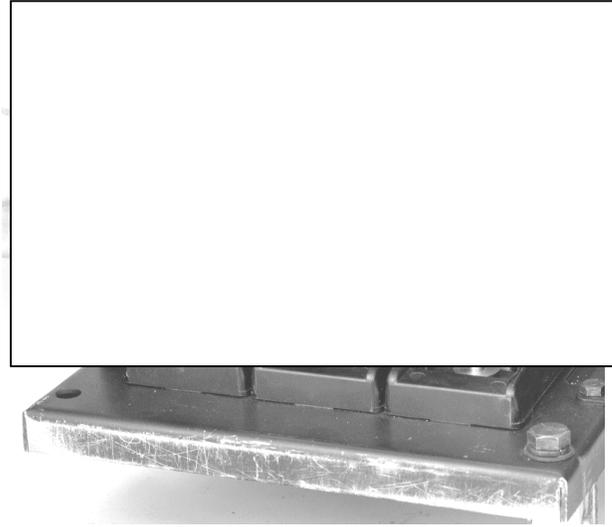

Figure 7. Installing the CT assemblies onto the breaker.
2. Place the alignment pins in the breaker frame bottom mounting holes left vacant by removal of the bolt in step 3 (Component Removal). Position each CT assembly over its alignment pin in the bottom of the breaker frame, as shown in Figure 7.